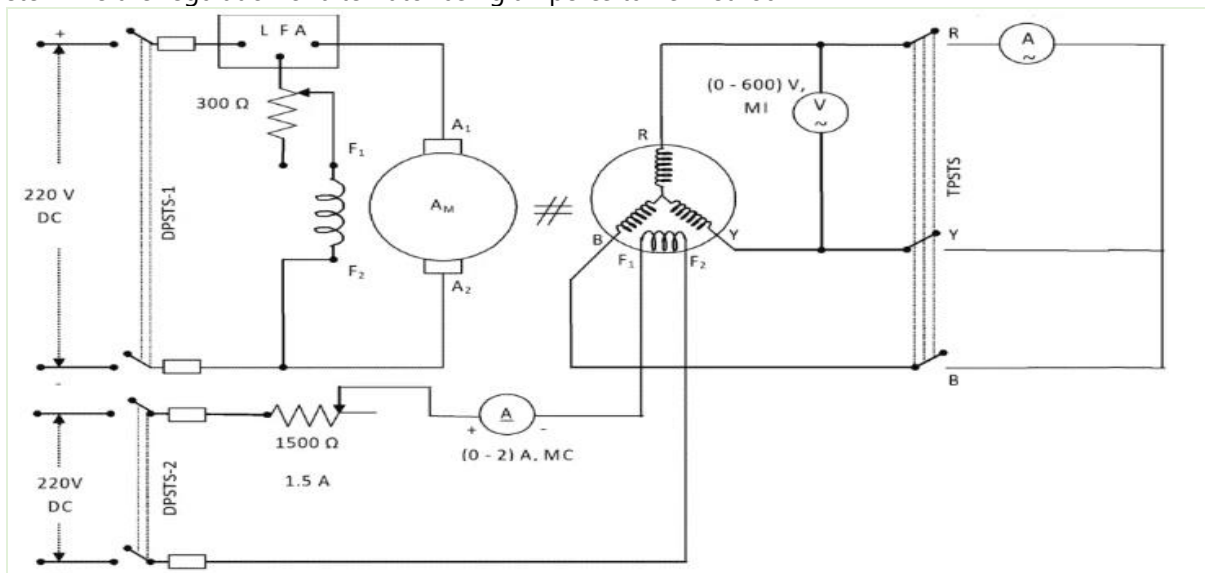

Figure 10 - REGULATION OF ALTERNATOR BY MMF METHOD
1. Calculate the Short circuit current from the circuit in Figure 10.